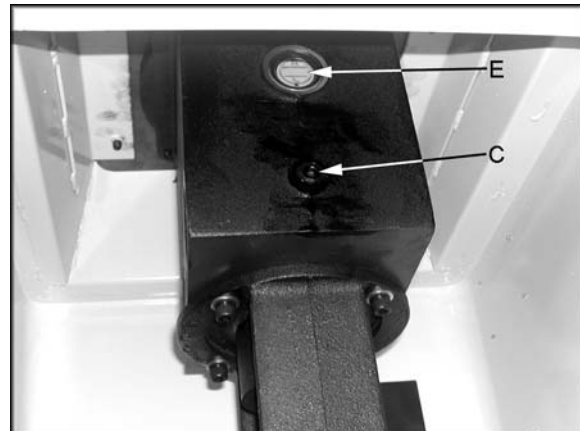

Figure 8
1. Open the door on the back side of the machine to access the drain plug (C, Figure 8). Use a 6mm hex wrench to remove the drain plug.
3. The oil sight glass (E, Figure 8) should read between the “high” and “low” marks.